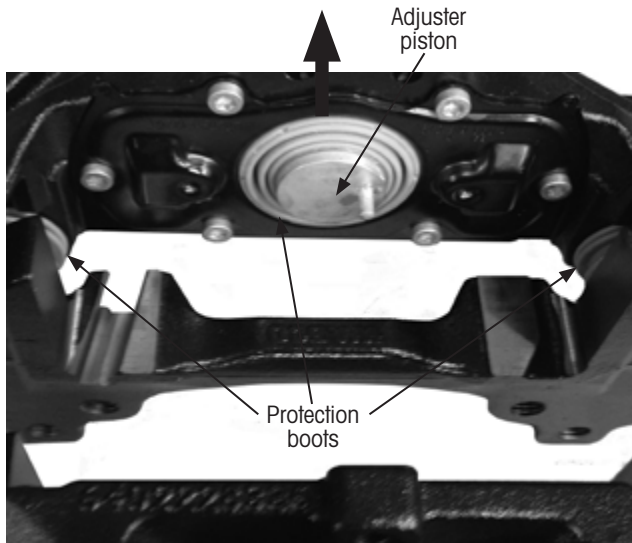

Figure 24: Pushing caliper toward inboard side
NOTICE: **Inappropriate cleaning may result in damage to the protection boots** (Figure 24 on page 17). This must be avoided.
5. **Check** the protection boots (Figure 24 through Figure 28) for wear and damage.